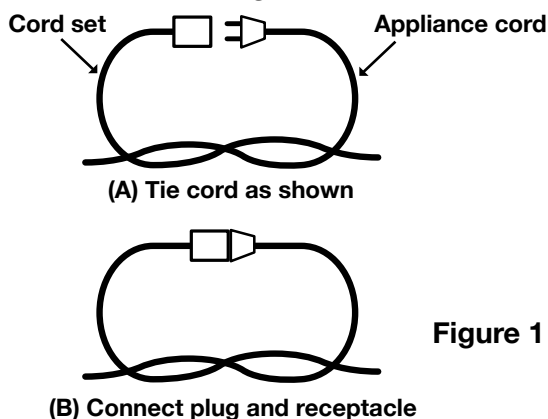

Figure 1
- i) Make a knot as shown in Figure 1 or